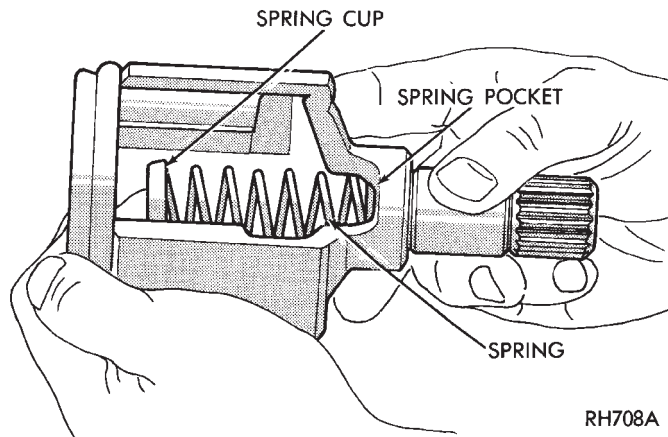

Fig. 12 Spring and Cup Installation
(1) Distribute 1/2 the amount of the grease provided into the housing and the remaining amount into the boot.
(2) Position the spring in the housing spring pocket with the spring cup attached to the exposed end of the spring (Fig. 12). Place a small amount of grease on the concave surface of the spring cup.
CAUTION: Care must be taken to ensure proper spring positioning. The spring must remain centered in the housing spring pocket when the tripod is installed and seated in the spring cup (Fig. 12).